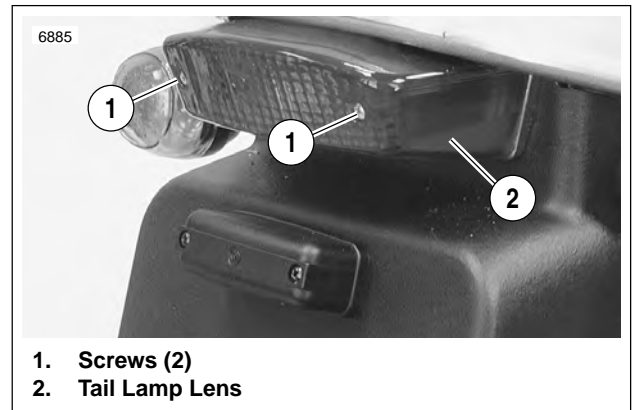

Figure 7-41. Turn Signal Lens
- a. See Figure 7-41. Remove two screws (1) to detach tail lamp lens (2).